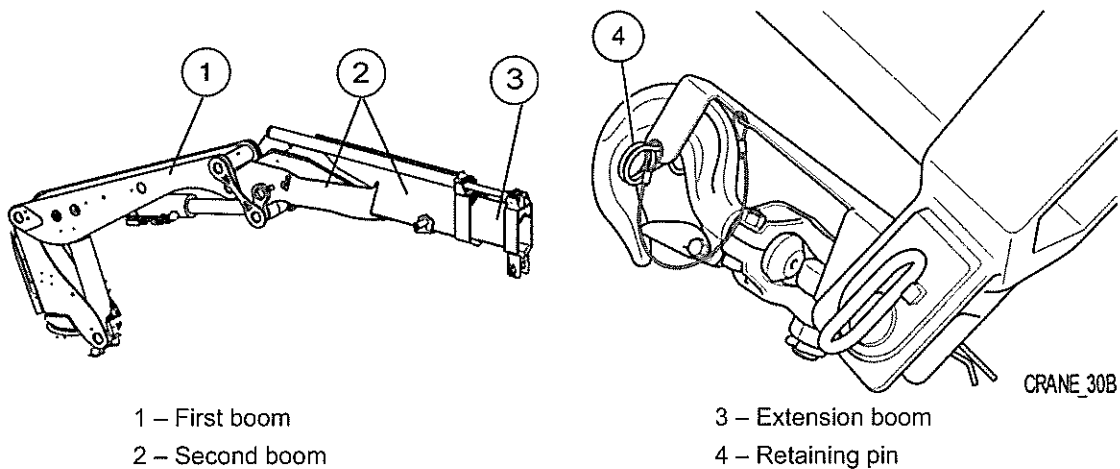

Fig 11 Unstowing the crane
- 18 Refer to Fig 11. To unstow the crane, proceed as follows:
- 18.1 Fully retract the extension boom (3).